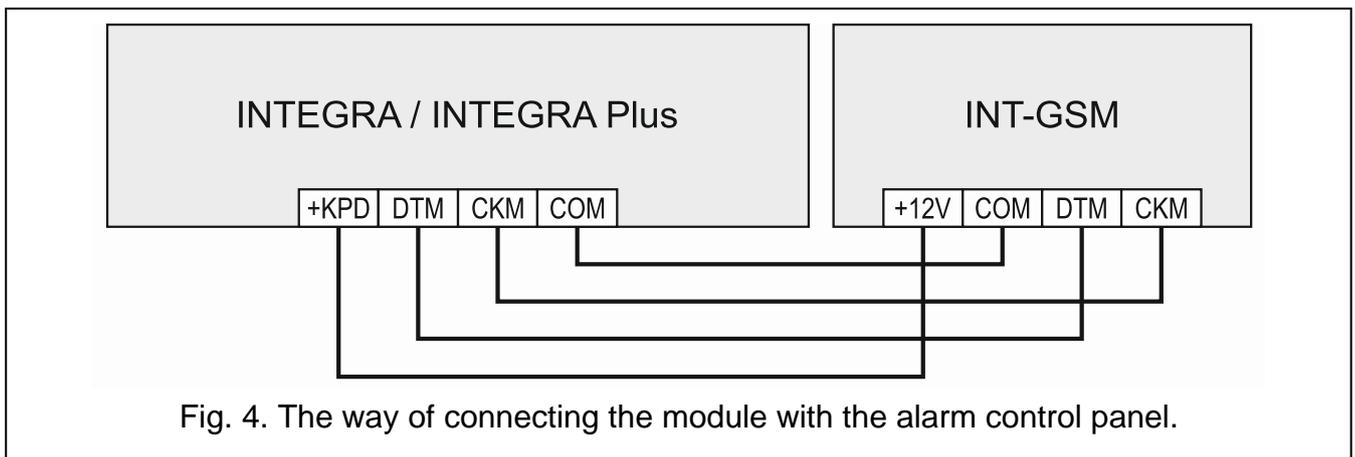

Fig. 4. The way of connecting the module with the alarm control panel.
1. Connect the +12V, COM, DTM and CKM module terminals to the control panel terminals (Fig. 4). To connect the +12V and COM terminals, use flexible conductors with a cross-section of 0.5-0.75 mm2, or rigid conductors with a cross-section of 1-2.5 mm2. If you use the "twisted pair" type of cable to connect the DTM and CKM terminals, keep in mind that the CKM (clock) and DTM (data) signals must not be transmitted using one pair of twisted wires. The wires must be run in one cable.